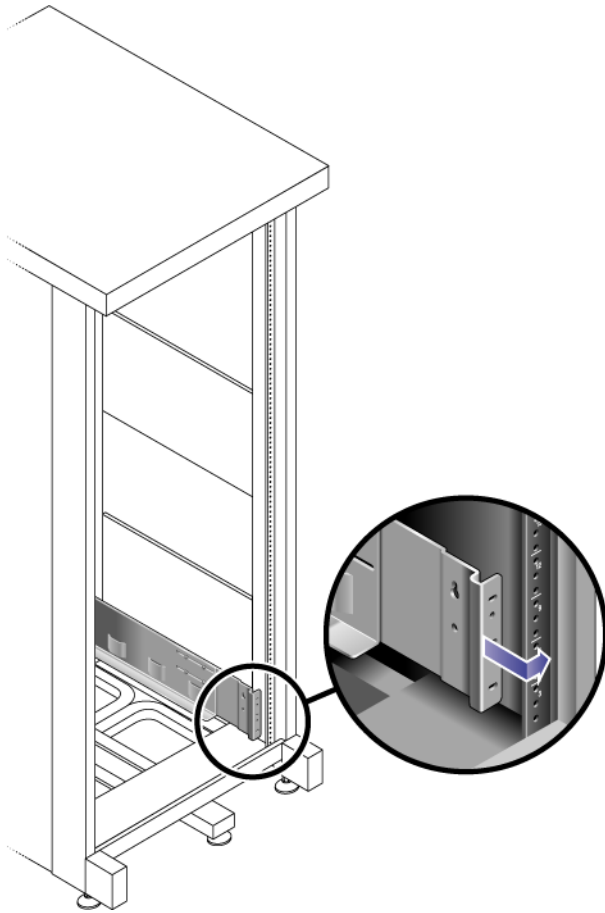

FIGURE 2-28 Adjusting the Length of the Rail at the Back of the Cabinet
5. At the back of the cabinet, adjust the length of the rail as needed to fit the cabinet, and position the rail flange over the face of the cabinet rail (FIGURE 2-28).